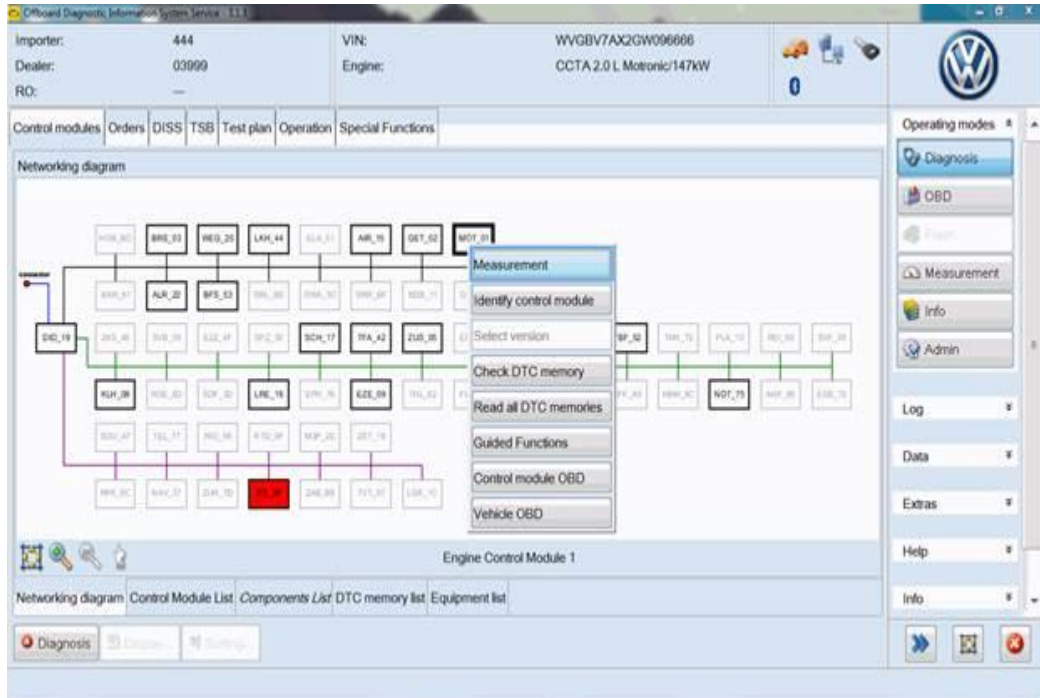

Figure 4
- Under Motor, select Guided Functions (Figure 4).